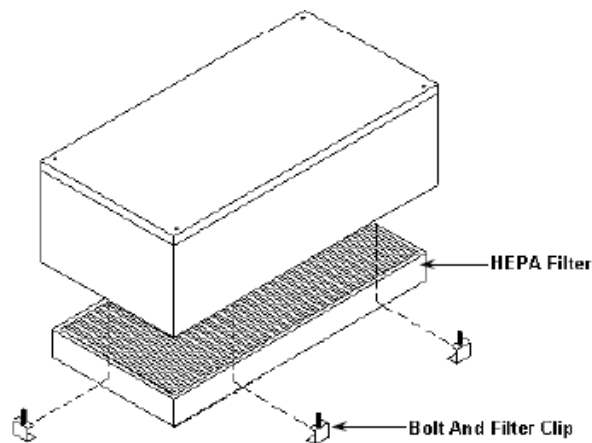

Figure 7: HEPA Filter and Filter Clip Locations
2. While supporting the HEPA filter by its aluminum frame, remove the six (6) filter clips and bolts and lower the HEPA filter (Figure 7) from the AirCeil unit. Slip a red plastic medical waste disposal bag over the HEPA filter from the top down. The top of the HEPA filter downward and wrap the bag over the bottom end and seal the bag.